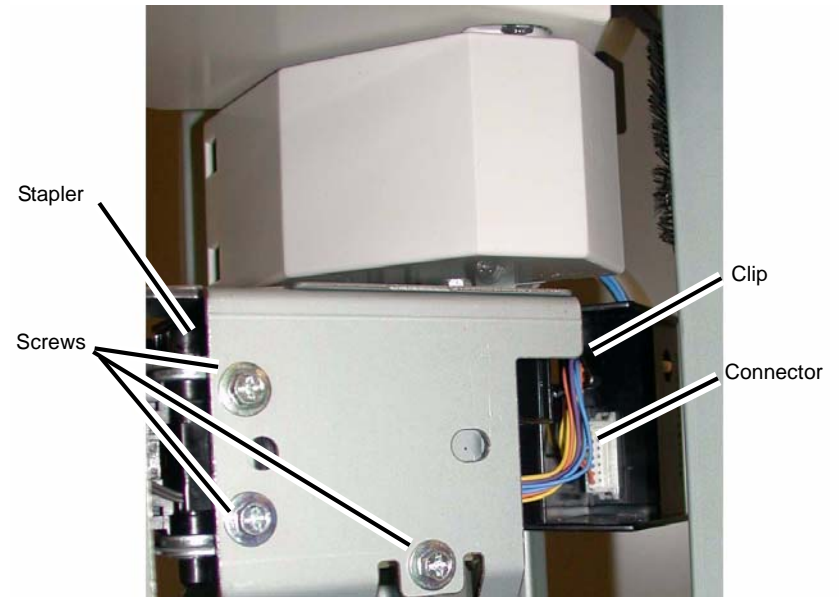

Figure 4 Removing the Stapler
8. Remove the Stapler (Figure 4).
- c. Remove the Screws (3).